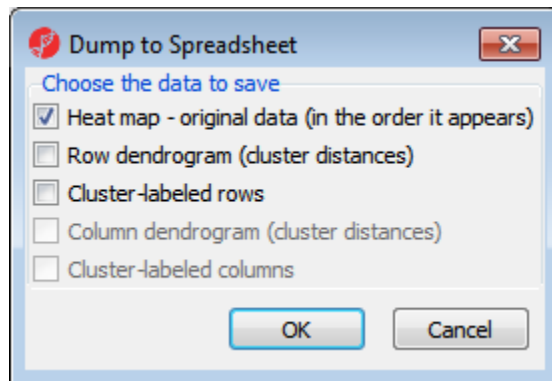

Figure 8.20: Configuring the Dump to Spreadsheet dialog
- Dump Selected to Spreadsheet: you can export the selected cluster to a spreadsheet, the saved data can be heap map values with the row and column in the viewer order; distances of the clusters on row/column and cluster membership of row/column (Figure 8.20). We will discuss this function in more details later.